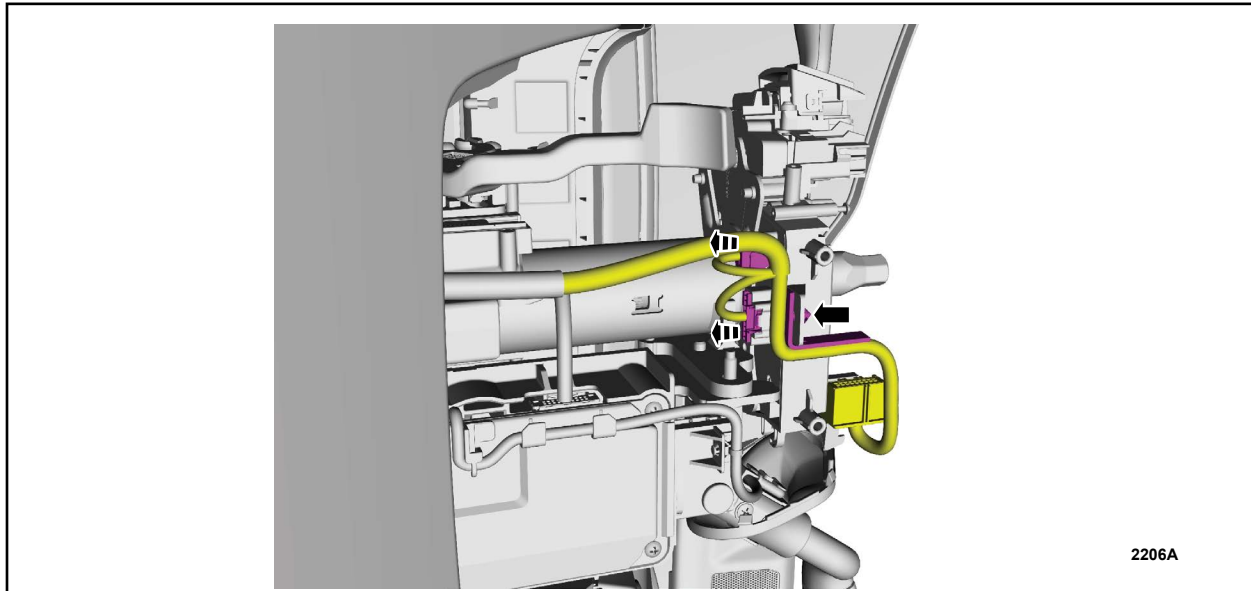

FIGURE 4
6. Disconnect the SCCM electrical connectors, unclip the pin type retainer and position the harness aside. See Figure 4.